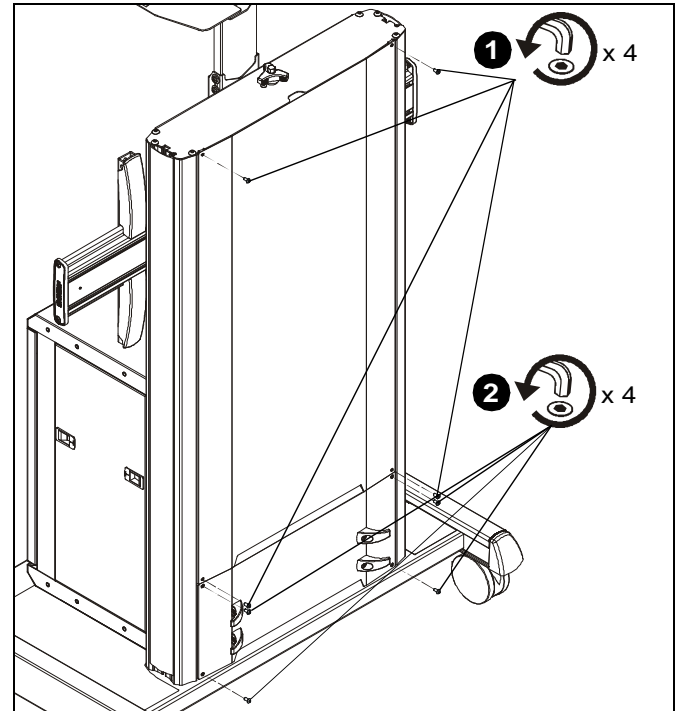

Figure 30
13. Remove four screws securing upper rear cover to cart assembly. (See Figure 30)
14. Remove four screws securing lower rear cover to cart assembly. (See Figure 30)